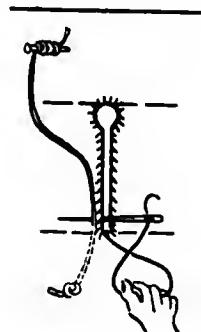

Fig. 238. Completing the padding.
- G. If the gimp is used as a foundation cord, lay it along the edge where the buttonhole stich begins (see Step VII below, Fig. 238) and after seven
- D. Grasp the double thread near the eye of the needle and cross it (the thread forms a figure eight) passing it under the point of the needle from right to left (Figs. 238 and 239).